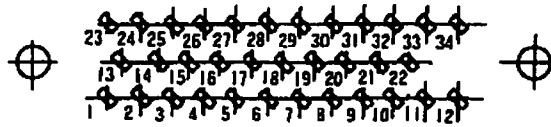

Fig. 6-9 Arrangement of Remote-Control Connector Pins
The controller is provided with remote-control connector for connection with remote operation, alarm signals, etc. Use this connector and a cable with shield as necessary. The shield of the cable should be connect to case of Remote-connector. (See Figs. 6-9, 6-10, 6-11 and Tables 6-2, 6-3) For remote-controlled operation, shift the REMOTE/LOCAL selection switch (Fig. 2-3 (15)) to REMOTE mode in advance. Fig. 6-9 Remote-Control Connector